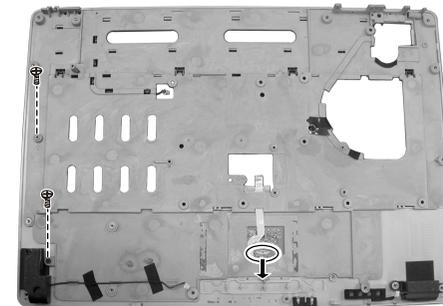

Figure 2-30 Free the shielding
3. Disconnect the cable from the touch pad, then remove the two screws and free the shielding. (Figure 2-30)